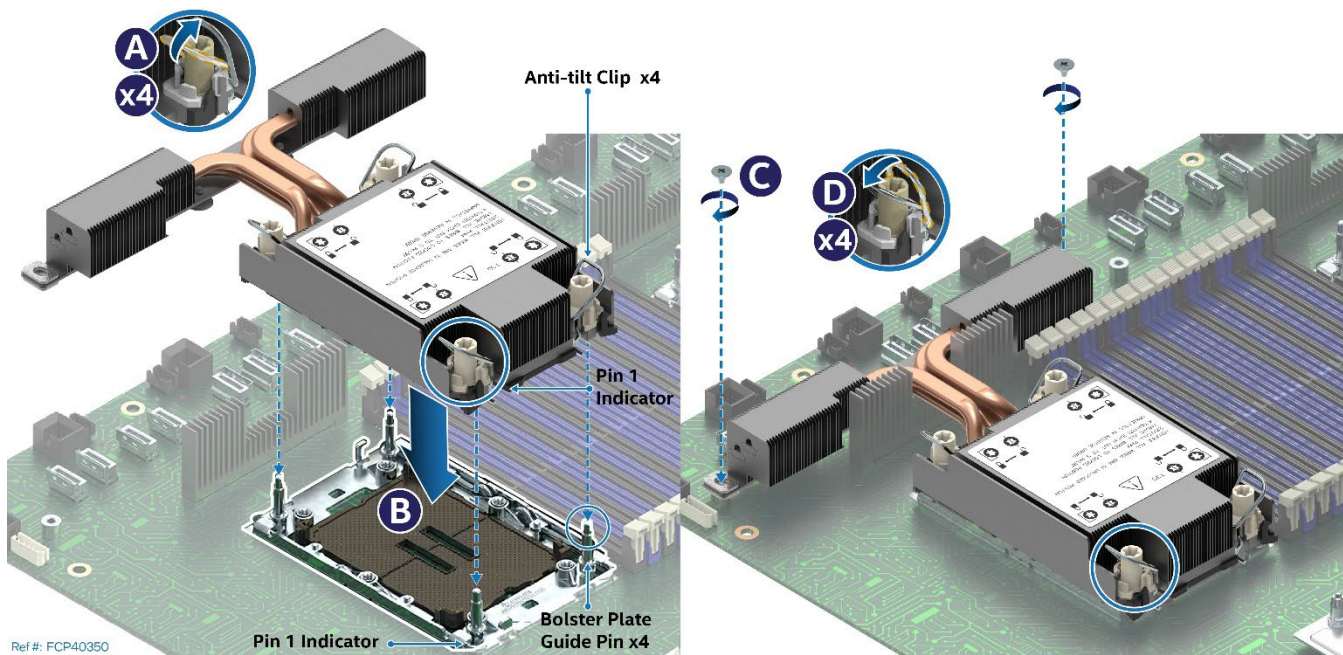

Figure 96. PHM Installation onto Server Board
2. Set anti-tilt wires on all four corners of the heat sink to the inward position (see Letter A in Figure 96).